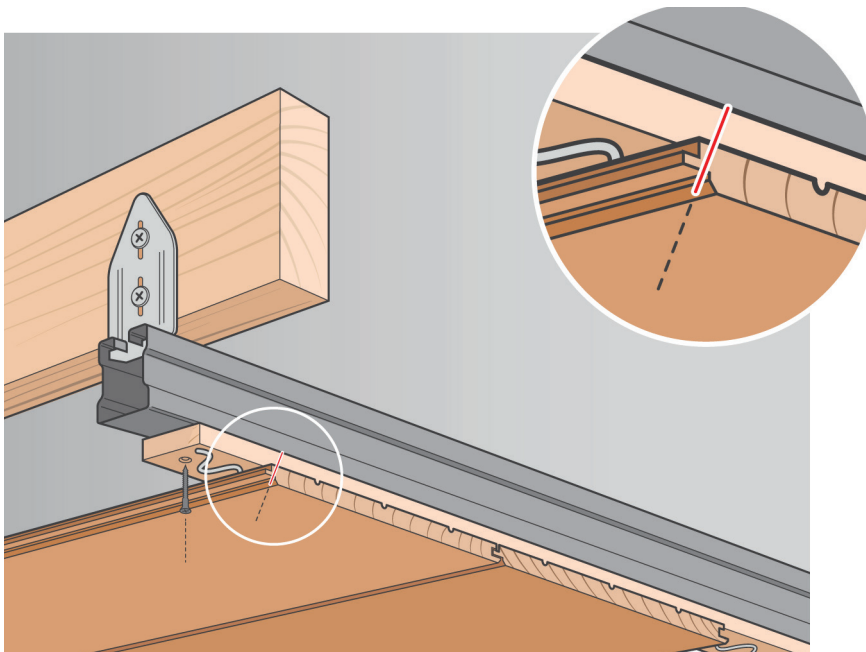

Figure 4: Panelling installation using metal track system / timber batten / secret nail and glue.
- For panelling that cannot use face fixing screws, it is necessary to securely scw a timber batten to the bottom of a metal track, then proceed as per timber framing projects (see Figure 4).